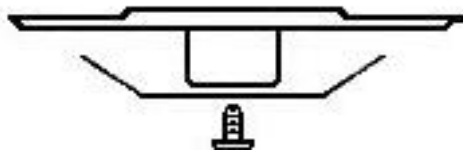

Figure 1
6. Fasten the baffle plates to the cover, as shown in illustration, using the furnished self-tapping screws. Add thread locking compound to each screw. Make sure the plate is not able to move when the screws are tightened down. See **Figure 1**.